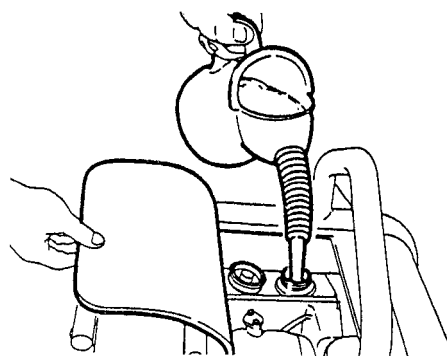

Figure 10. Refueling
- Visually inspect to see if fuel level is low. If fuel is low, replenish with diesel fuel (Figure 10).